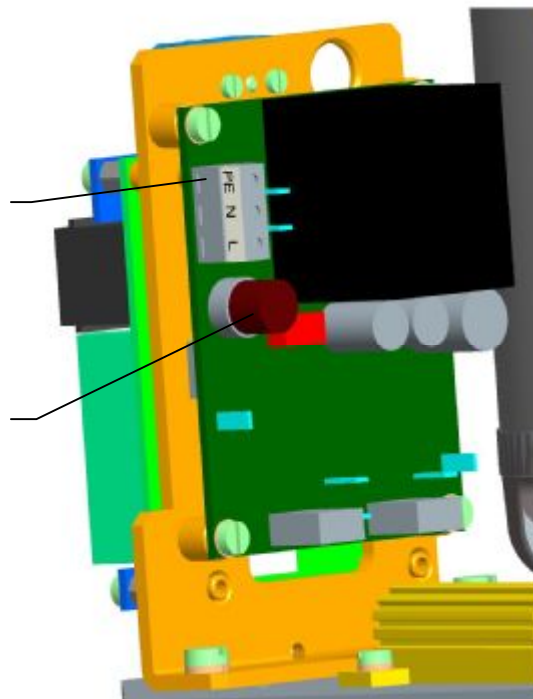

Fig.2
- for safety operation of the actuator use EA be unavoidable connect external and internal ground terminal (by version EA.) The position of the external a internal ground terminal can be seen in Fig. 2, 2a, 2b, 2c, 2d. For forcing - in wires in external ground terminal be needed use pliers HP3 for insulated eyelet (firm CEMBRE).
Actuator power supply board is installed with power supply fuse (F3). Location of the fuse on the power supply board can be seen in Fig.2.